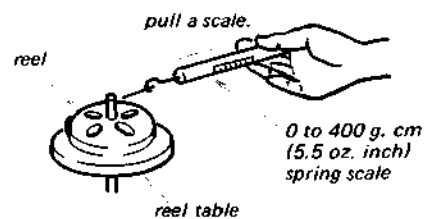

Fig. 3-12. FWD and REV back tension torque adjustment
2. Measure the back tensions by pulling the 0 to 400 g (14 oz) spring scale at approximately 9.5 cm/s (3-3/4 ips) speed in FWD [REV] mode. See Fig. 3-12. It should be 200 to 240 g.cm (2.78 to 3.32 oz. inch).
2. Measure the back tension by pulling the 0 to 400 g (14 oz) spring scale at approximately 9.5 cm/s (3-3/4 ips) speed in FF [REW] mode. See Fig. 3-12. It should be 60 to 80 g·cm (0.83 to 1.1 oz·inch).